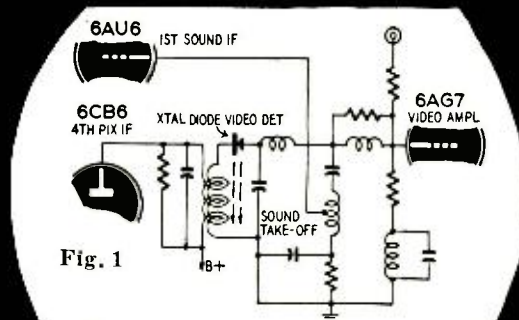

Fig. 1
A. D. Marikle of New York reports an unusual symptom in the RCA KCS-66A series receivers. He has encountered conditions where the receiver has a normal raster, fair or even good sound, but no picture. Normally this would indicate trouble *after* sound take-off. In three instances, however, he has found this trouble to be a defective 1N60 crystal diode video detector as shown in Fig. 1. This would not ordinarily be suspected, as the sound take-off is *beyond* the detector circuit. Evidently the rectifying action of these crystals can decline considerably but still permit heterodyning of sound and picture signals to secure the necessary 4.5-mc frequency for the sound i.f. stages.